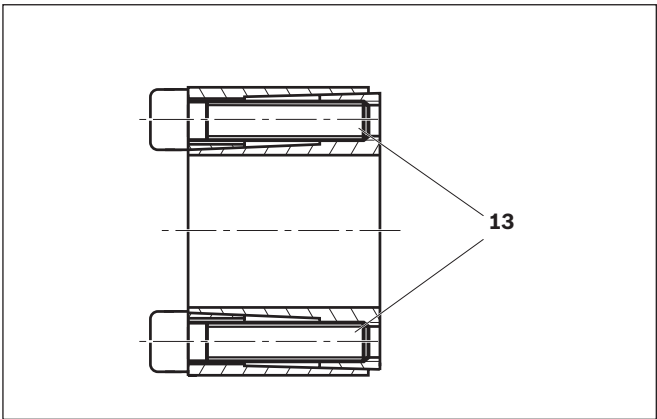

Fig. 21: Tensioning unit
- 4. Evenly tighten the screws (13) ➡ Fig. 21 cross-wise in several stages to the tightening torques of the tensioning units ➡ table 13.